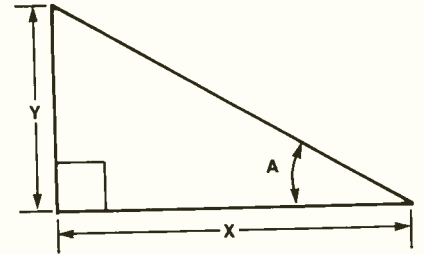

Fig. 5. Arctangent is the angle (A) that corresponds to the ratio of the length (Y) divided by the length (X).
In last month's article, a detailed description of Arctangent is given. This month I will just touch on the major points. Arctangent is defined as the angle (A) that corresponds to a specific ratio created by dividing the length of the side opposite the angle (Y) by the length of the side adjacent to the angle (X). An Arctangent diagram is shown in Fig. 5.